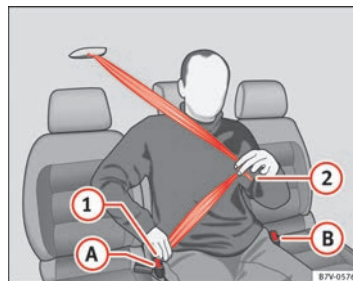

Fig. 12 Fasten the seat belt on the centre seat in the second row of seats
- Use latch plate of the belt ⇒ Fig. 12 (1) to pull the seat belt down. Do **not** twist the seat belt when doing so ⇒ ⚠.
- Engage the latch plate (1) in the buckle of the corresponding seat (A).
- Use the latch plate (2) to pull the seat belt across your lap.
- Engage the latch plate (2) in the buckle of the corresponding seat (B).